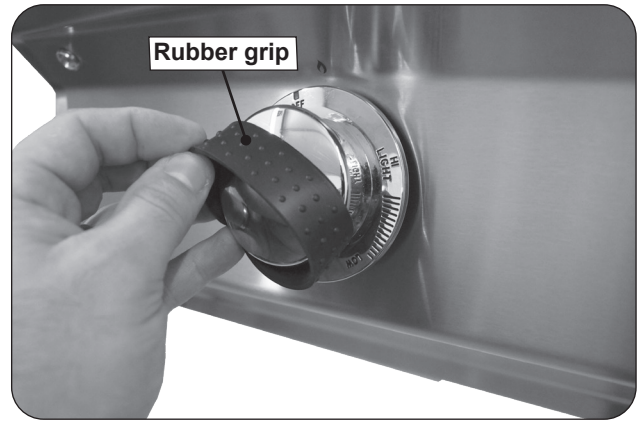

Fig. 28-1 Remove rubber grips
2. Remove the rubber grip from the control knob (see Fig. 28-1).